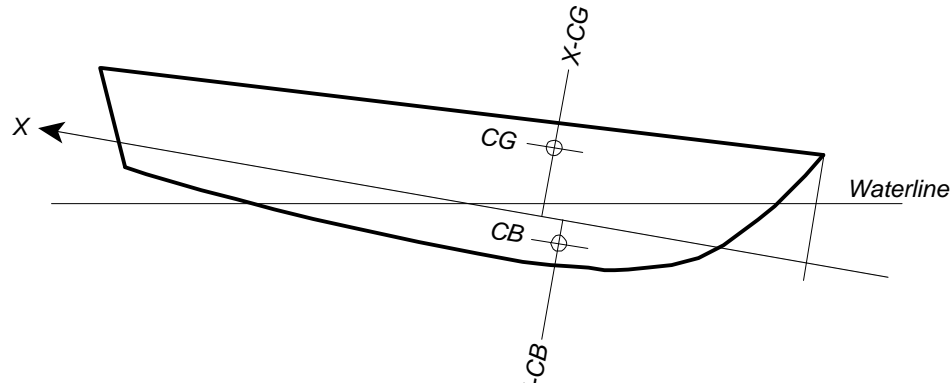

Fig. 5. When the vessel has non-zero trim, the Z-value of the CG and CB is not the measurement from the waterline.
**Center of Gravity:** CG referenced to the model's coordinate system. Note that if the vessel has non-zero trim or non-zero heel, Z is not the measurement from the waterline and the X and Y axes are not parallel to the waterplane (see CG in Fig. 5 below).
**Center of Buoyancy:** CB referenced to the model's coordinate system. Note that if the vessel has non-zero trim or non-zero heel, Z is not the measurement from the waterline and the X and Y axes are not parallel to the waterplane (see CB in Fig. 5 below).